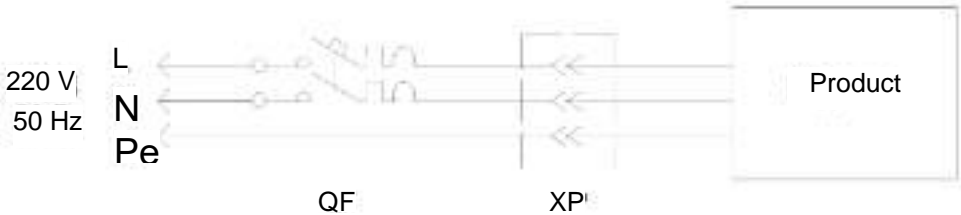

Fig. 1. Electrical connection diagram
5.4 The product shall be connected to the power supply (Fig. 1) via the circuit breaker providing combined (thermal and electromagnetic) protection with the rated trigger current value of **8.0 A**.